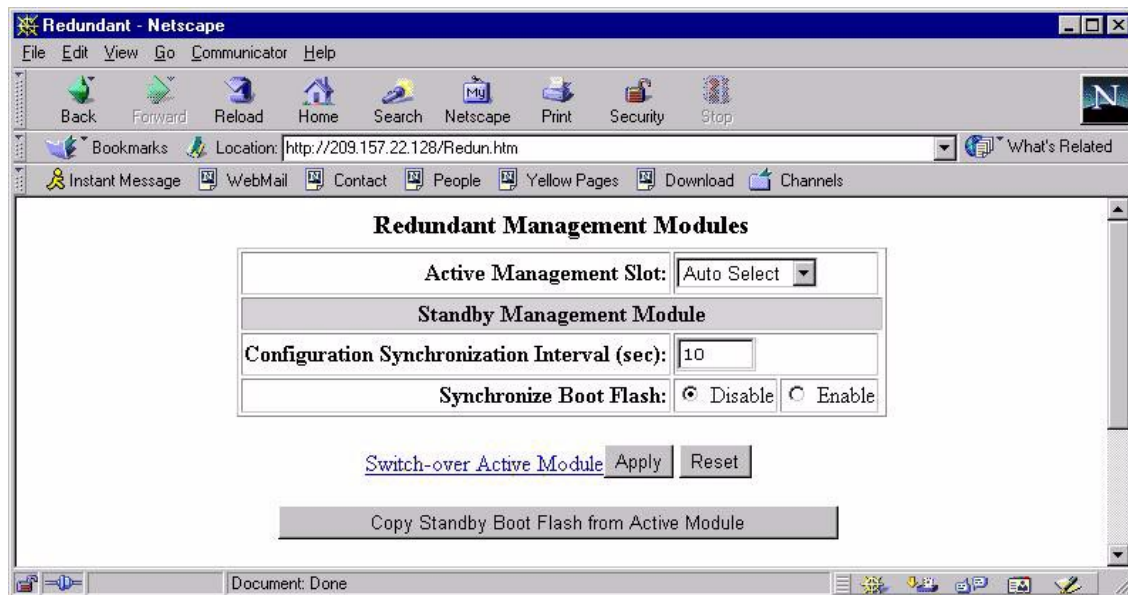

Figure 3.2 Redundant Management Modules panel
2. Select the Redundant link from the System configuration sheet. The Redundant Management Modules panel is displayed, as shown in Figure 3.2.